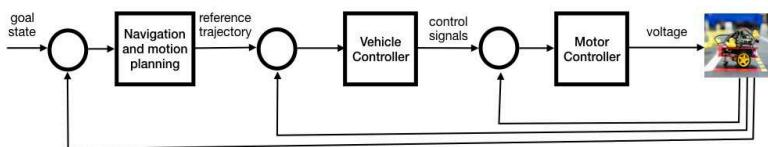

Figure 2.5. An example of nested control loops
The loops are called nested since the output of the outer loop is used as the reference input to the inner loop. An example is shown in Figure 2.5.
**Recommended:** If Figure 2.5 is VERY mysterious to you, then you may want to have a quick look in a basic feedback control textbook. For example [\[21\]](#) or [\[22\]](#).
The next inner loop of the nested controller in Figure 2.5 is the Vehicle Controller, which takes as input the reference trajectory generated by the Navigation and Motion Planning block and the current configuration of the robot, and uses the error between the two to generate a control signal.